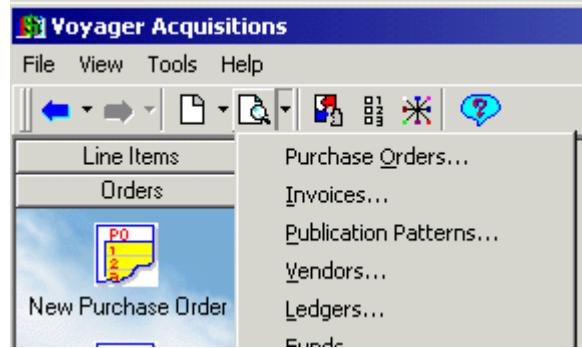

Figure 2-1. Search button drop-down list
- Click the down arrow beside the **Search** button on the Acquisitions toolbar, then click the relevant search item from the drop-down menu (see Figure 2-1)